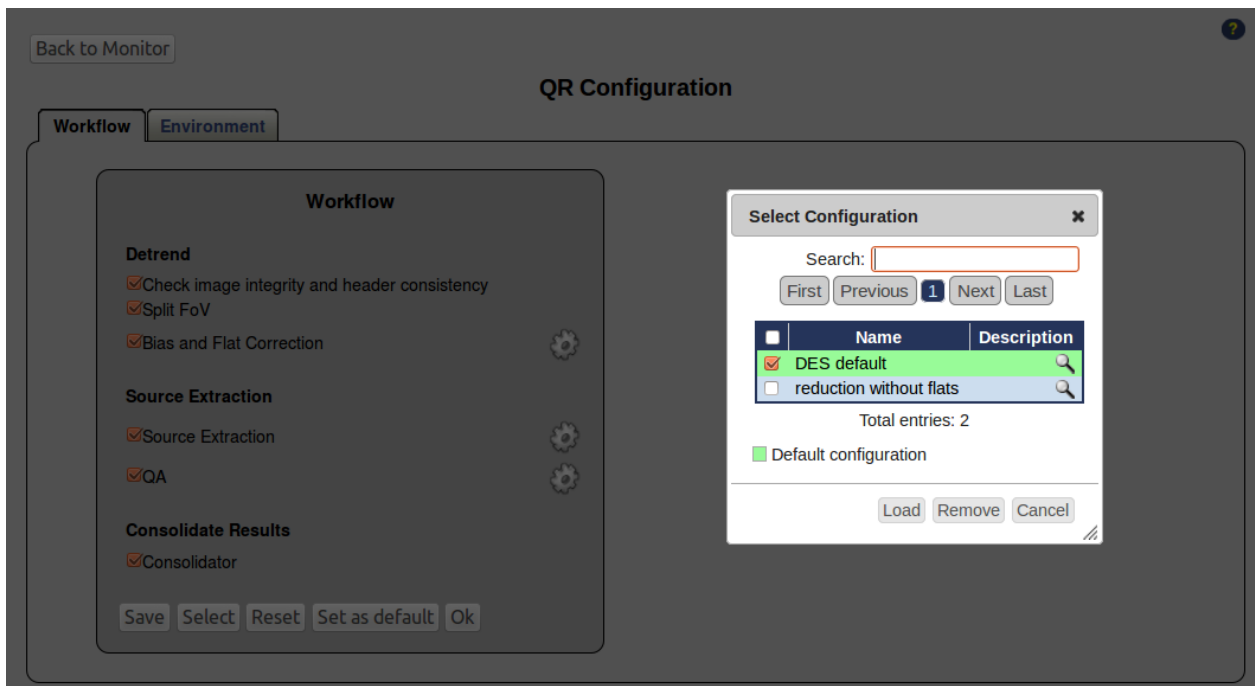

Figure 5 - Example of a list of previously defined configuration files that can be selected by the user.
- **Select Configuration:** As illustrated in detail in Figure 4, by pressing this button the user has access to a screen from which the configuration for the workflow, environment, and alerts due to anomalies can be chosen. In the case of the workflow one also has access to the parameters used by the individual modules, including those that control the QA parameters. Configurations can be saved and set as default. Alternatively, the user may select a previously defined configuration as shown in Figure 5. Alerts to the QR monitor and to SISPI can be configure here as well.